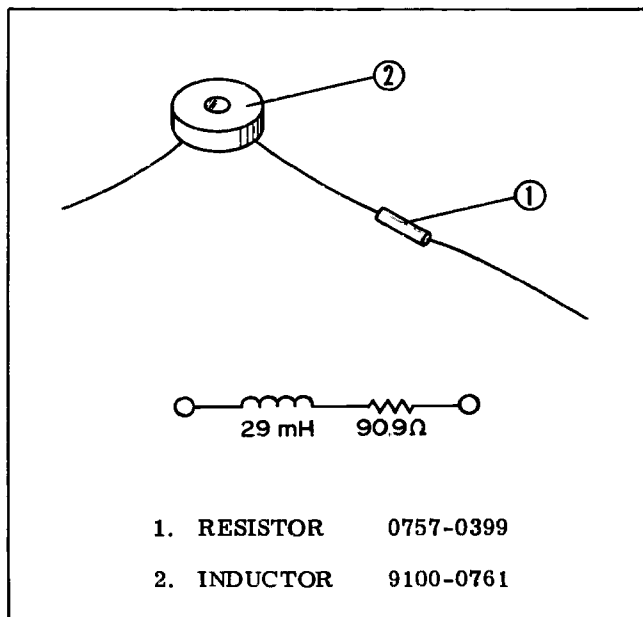

Figure 5-3. $(90\Omega + j180\Omega)$ Impedance
- e. Set the range to 100Ω and measure an impedance of $(R + j\omega L)$ as shown in Figure 5-3, where R should be calibrated by DC bridge and the reactance value twice that of R.